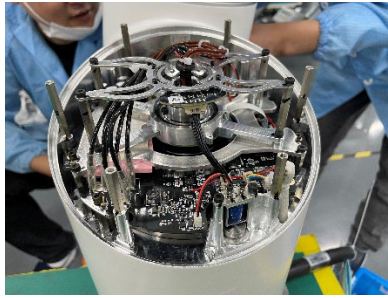

Figure 3-10 Reconnect the wires
- Reconnect the wires and tie with nylon zip ties, as shown in Figure 3-10: